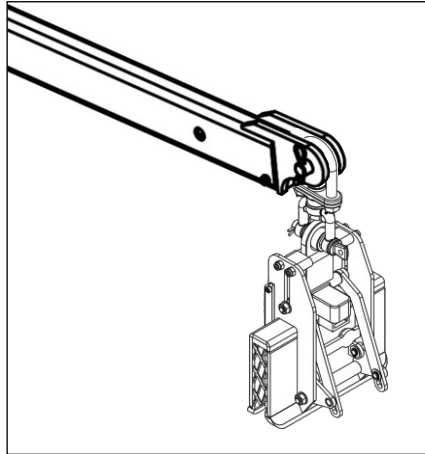

Figure 1.1
**Step 1:** Hook the Super Multi Material Lifter Automatic to a forklift boom or to a crane hook (Figure 1.1).